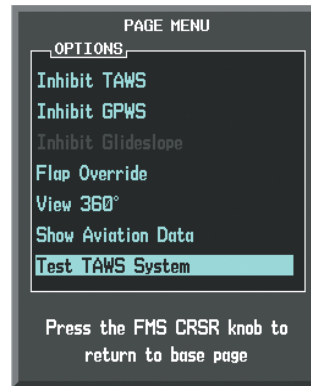

Figure 6-158 TAWS-A Page Menu
- 3) Select 'Test TAWS System' and press the **ENT** Key to confirm the selection. (Figure 6-158)